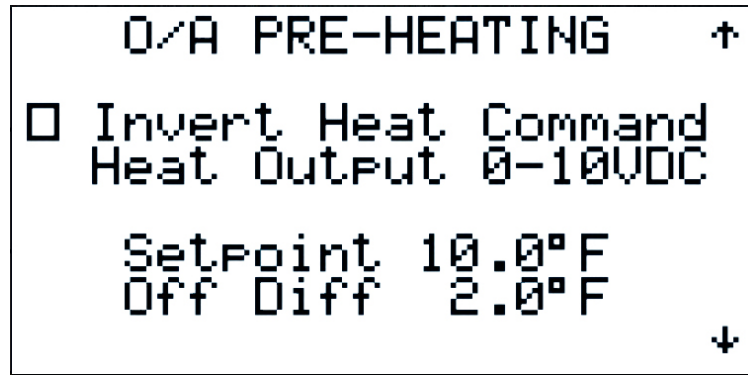

Figure 62
2.3.3.2.5. Tuning – Outdoor Air Pre-Heating (Figures 62 & 63)